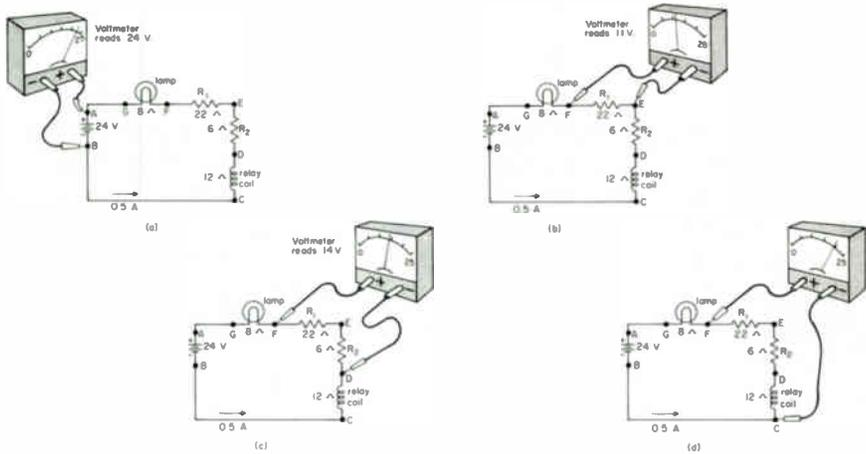
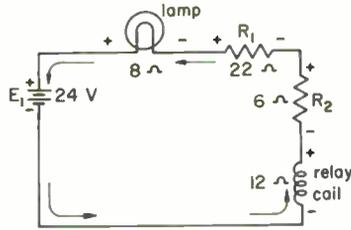
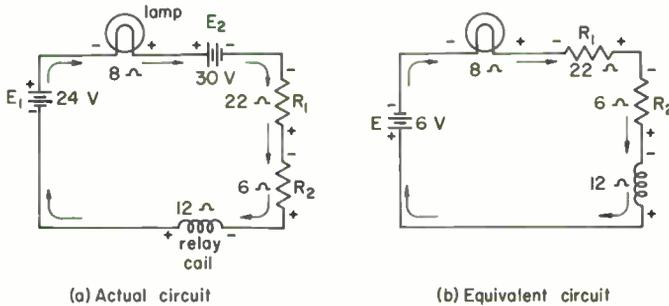

Fig. 38 Although there's only one voltage source, many different voltages exist in this circuit.
Fig. 41 Polarity of components in a series circuit.
Fig. 42 When voltage sources "buck", the polarity of the higher active voltage determines the current direction.
10 A RESISTOR CAN HAVE A VOLTAGE . . . A voltmeter connected across the power source in a circuit, such as the battery of Fig. 38(a), reads the voltage of that source. What may come as a surprise is the fact that a circuit component that is not generating electricity can also have a voltage! For example, if the voltmeter is connected across R_1 , as in Fig. 38(b), it will read 11 V—although the resistor is obviously not a source of power.
This brings us again to the idea of an equivalent circuit. The resistor R_1 in Fig. 38(b) is equivalent to an 11-V battery, because the voltmeter reading is the same as it would be if we replaced R_1 with an 11-V battery. The lamp, the relay, and R_2 also have voltages across them, and therefore can be regarded as equivalent voltage sources.
The voltmeter in Fig. 38(c) is connected to points F and D . Therefore, it measures the voltage across R_1 and R_2 in series. Since resistances in series add, the R_1 - R_2 combination is equivalent to a single resistor of 28Ω connected between F and D in place of R_1 and R_2 . By Ohm's law, the voltmeter will read $E = I \times R = 0.5 \text{ A} \times 28 \Omega = 14 \text{ V}$.
2. The voltmeter in Fig. 38(d) reads _____ volts.
3. If the voltmeter leads in Fig. 38 are connected to points D and E , the voltmeter will read _____ volts.
5. The voltage across the lamp in Fig. 38 is _____ volts.
6. If the voltmeter is connected to points *B* and *C* in Fig. 38, it will read _____ volts.
7. Add the voltages found across each of the four components in Fig. 38. Is the sum equal to the battery voltage?
11 POLARITY OF SERIES CIRCUIT VOLTAGES . . . We'll now take a look at the polarity of the voltages connected with a series circuit. DC voltmeters always have their leads marked (+) and (-). To read the voltage of a battery (or other voltage source), the (+) lead of the voltmeter must connect to the positive battery terminal and the negative lead to the negative terminal, as in Fig. 38(a). If the voltmeter is connected with the leads reversed, the meter needle will try to swing backwards—which it can't do—and no meter reading will be obtained. When using a voltmeter, you can determine the polarity of any circuit voltage. Simply connect the voltmeter, and—if no reading is obtained—reverse the leads. When a reading is obtained, the (+) and (-) markings on the meter indicate the polarity of the voltage being measured.
In Fig. 38(b), the polarity of the voltage across R_1 is left-end positive and right-end negative (as you can determine at once by merely looking at the voltmeter). The polarity of the voltage between points F and D in Fig. 38(c) is point F positive with respect to point D , which is negative.
You don't have to use a voltmeter to find the polarity of the voltages across the components in Fig. 38: simply note which way the current flows through the components. *The current always enters a passive component at the negative terminal, and leaves at the positive terminal.* A passive component is one that's not actually a voltage source, although it may have a voltage across it and therefore be equivalent to a voltage source. A resistor is an example of a passive component. The lamp, the relay coil, R_1 , and R_2 in Fig. 41 are passive components. The current enters the relay coil at the bottom, and leaves at the top. Therefore, the bottom of the coil is negative with respect to the top, as indicated in Fig. 41. Similarly, the polarities of the lamp and R_1 and R_2 are as marked.
An *active component*, on the other hand, is one that directly supplies operating power to the circuit. Batteries, generators, power supplies, and wall outlets are examples of active components. There would be no current in Fig. 41 if it weren't for the battery. Hence, the battery is an active component, while all the other components (which would have no voltages of their own if it weren't for the battery) are passive components.
Since an active component is a voltage source, it has its own polarity, as determined by its design. Also, its polarity—unlike the polarity of a passive device—doesn't depend on the direction of current. The current direction determines the polarity of a passive device, but the polarity of an active device determines the current direction. If there's only one active component in the circuit, the current direction (as you've previously learned) is from the negative terminal through the rest of the circuit and back to the positive terminal, as shown in Fig. 41.
If there's more than one active circuit component, however, the current doesn't always flow in the direction indicated in the preceding paragraph. In Fig. 42(a), for example, an additional battery (E_2) has been added to the circuit. Battery E_2 is pushing the current clockwise around the circuit, while E_1 is pushing in the opposite direction. The higher voltage, of course, wins out in this tug-of-war, so that the current direction is as shown. Although the current through E_1 is opposite in direction to that of Fig. 41, the battery polarity doesn't change.
- 42 The result of active voltage E_1 in Fig. 42(a) “bucking” active voltage E_2 is a net voltage of $30\text{ V} - 24\text{ V} = 6\text{ V}$. Hence, the circuit of Fig. 42(a) can be simplified by replacing the two batteries with a single equivalent voltage source of $6\text{ V} - E$ in Fig. 42(b).
If we were to reverse the polarity of E_1 in Fig. 42(a), the two battery voltages would add. Then, the voltage of the equivalent battery E in Fig. 42(b) would be $30\text{ V} + 24\text{ V} = 54\text{ V}$. You can easily tell if the voltages of two active components add or subtract: just note which way each active voltage is trying to push the current. If both voltages are pushing in the same direction, the two voltages add; if they are pushing in opposite directions, they subtract. Another way to tell is to remember that, in order for the voltages to add, the positive terminal of one cell must be connected to the negative terminal of the other cell. In making this check, you ignore all passive components between the terminals. For example, in Fig. 42(a) you can see that the (+) terminal of E_1 connects to the (+) terminal of E_2 . (Pay no attention to the lamp in between.) Hence, the two cells are bucking each other.